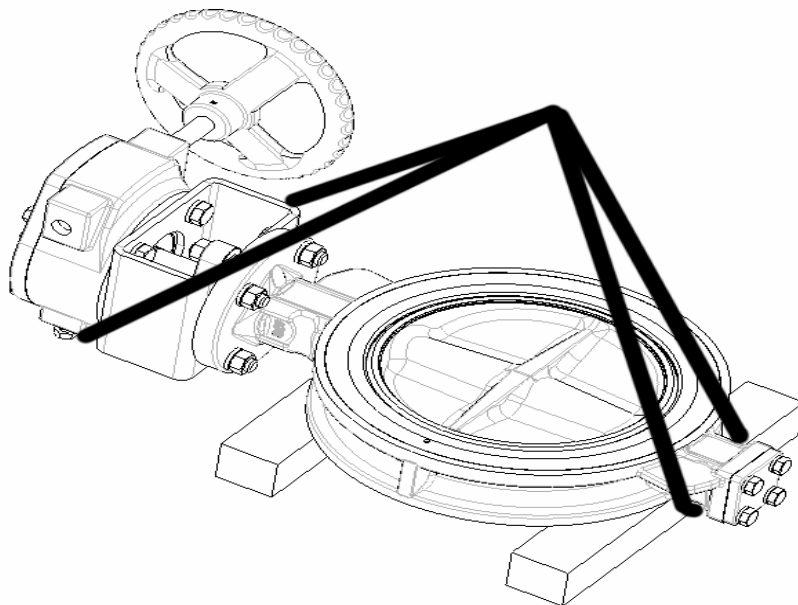

Fig. 1
- b. Place the valve horizontally on the wooden pieces in order not to damage the valve and with the seat retainer facing up (Fig. 1).